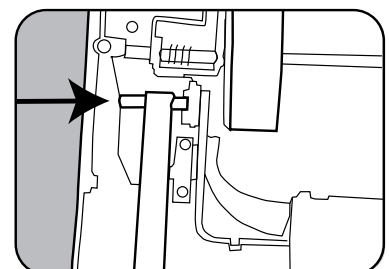

Fig. 6
- Loop a new belt over the motor pulley (Fig. 6) and over the end of the agitator.